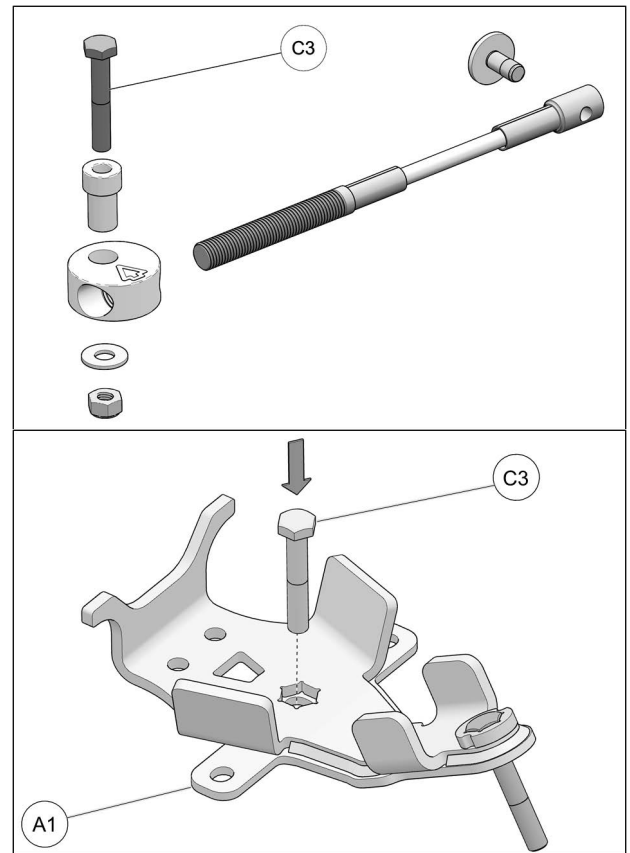

Fig. 14
5. Retrieve the M10x60mm bolt (**C3**) from the Steering Limiter assembly and insert it in the front anchor bracket (**A1**) as shown in Fig. 14